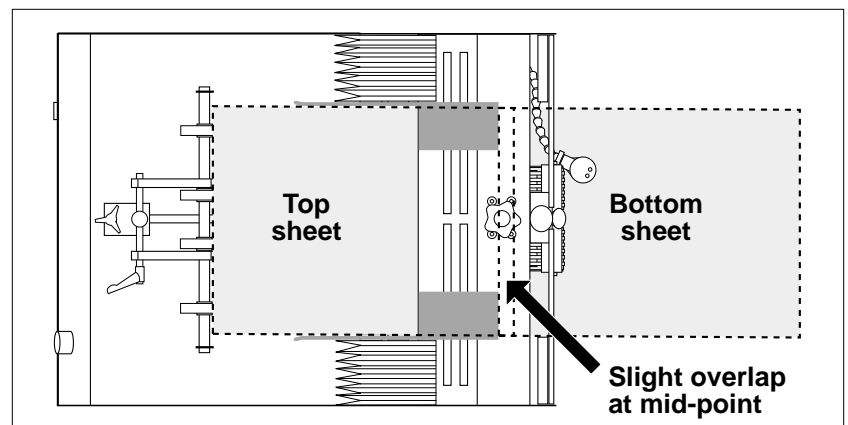

Figure 3-17. Optimum Overlap and Separation of Material
2. Observe how individual material enters and exits the gate assembly area. Remember, a properly set gap will allow each new sheet to enter at about the center line of the cylinder while the bottom sheet is exiting the gate assembly area (Figure 3-17). Ideally, this means a slight overlap of both the first sheet and the second sheet (.125 in., or 3 mm) at the gate assembly area. The overlap occurs as the bottom sheet is exiting, and the next sheet is entering.
It might be helpful to know that a properly set gap will allow the leading edge of a sheet to enter at about the center line of the cylinder (refer back to Figure 3-17) as the previous or bottom sheet is exiting the gate assembly area.